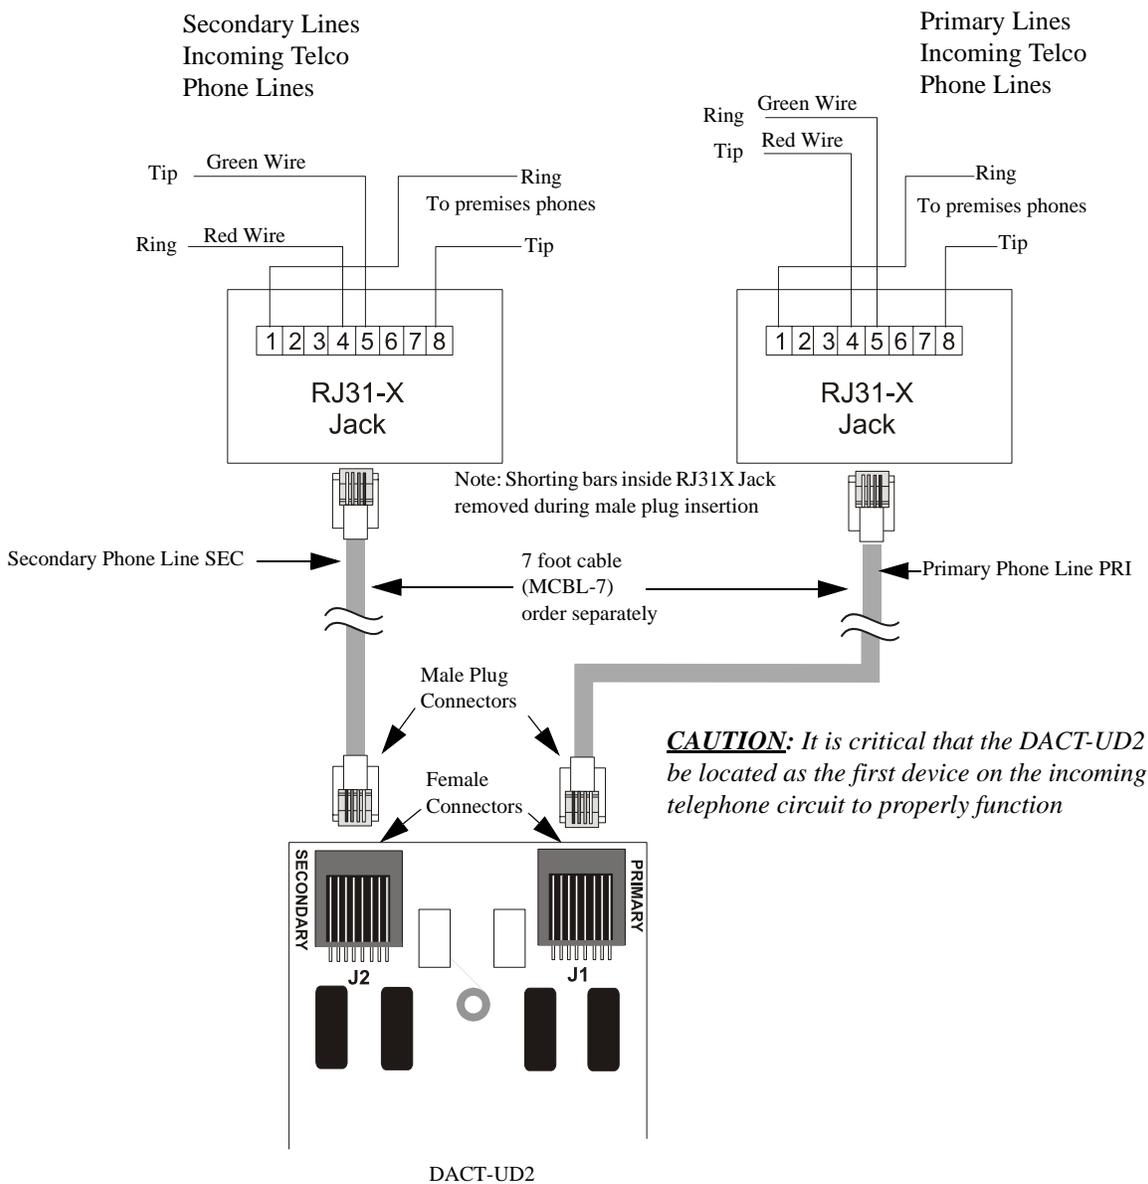

Figure 2.14 Wiring Phone Jacks
12. Refer to the Telephone Requirement and Warnings section of the DACT-UD2 Installation and Programming Manual Document #53037, before proceeding with this step. Connect the premises primary and secondary phone lines to the DACT-UD2 as illustrated in Figure 2.14 and test the system for correct operation